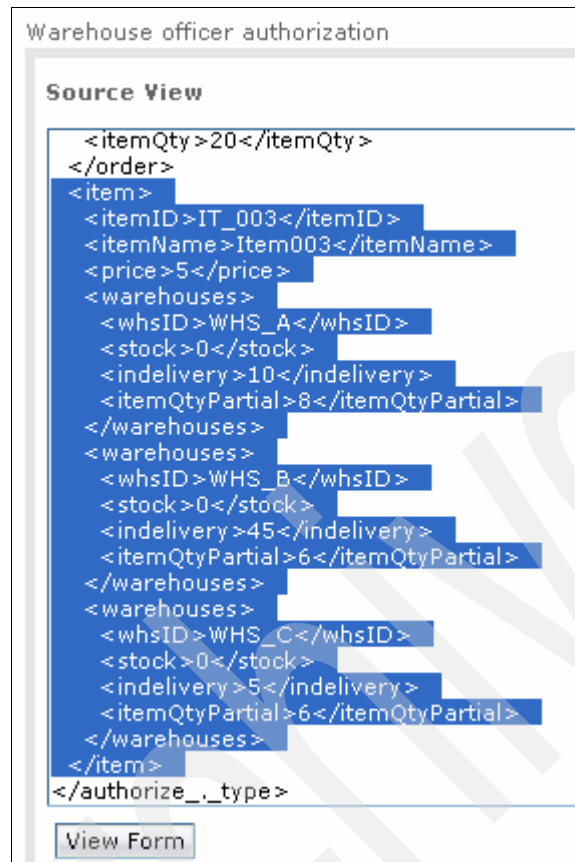

Figure 3-160 Source view of input message
17. Select the contents of the item tag as shown in Figure 3-160.